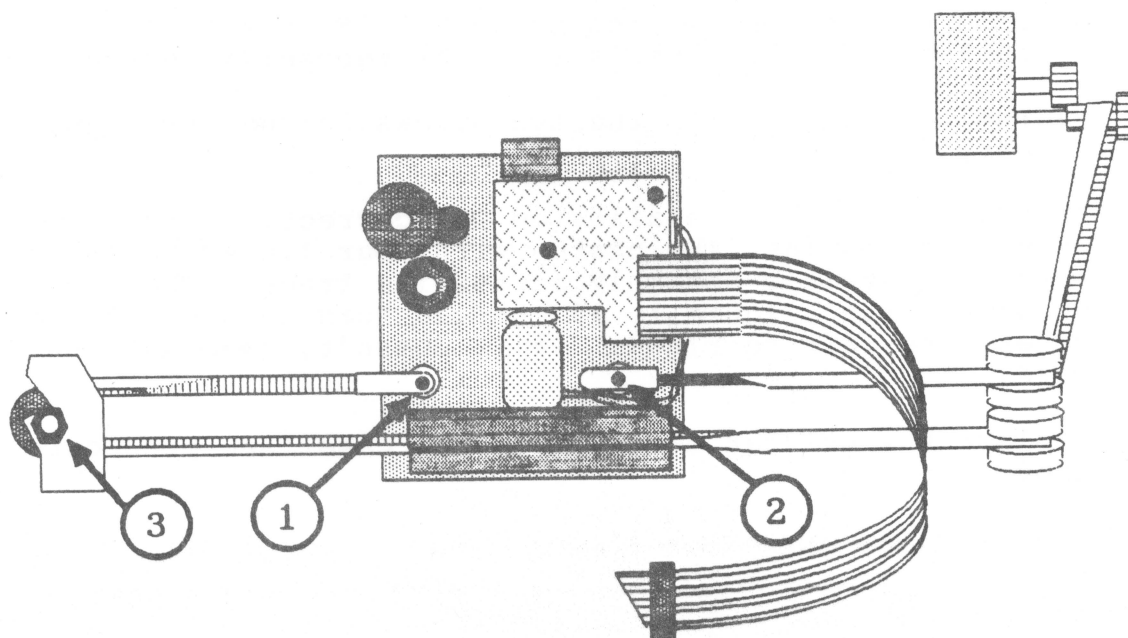

Figure 4
10. Lift the near edge of the carriage assembly up and rest the assembly on its print-head side, so that its underside is facing you. (See Figure 4 for a view of the underside of the carriage assembly.)
11. Remove the screws from the two ends of the belt (Figure 4, #1 and 2).
12. Loosen the nut on the left-hand belt pulley (Figure 4, #3); then pull the pulley out of its holder and remove the belt. **IMPORTANT:** Be careful not to lose the pulley's washers.